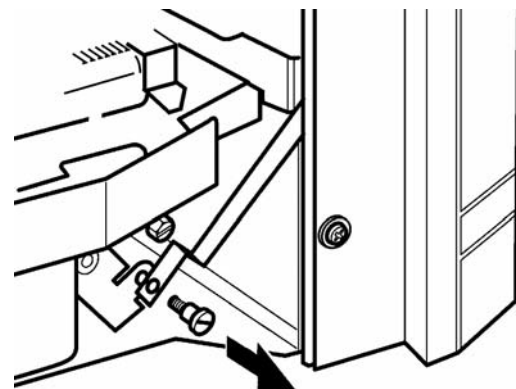

Figure 41. Control linkage disconnection (Shown with 'Dream' fascia)
**Detach the control-linking bar from the control pivot bracket by removing the knurled screw, which joins the control linking bar to the control pivot unit (See figure 41).**